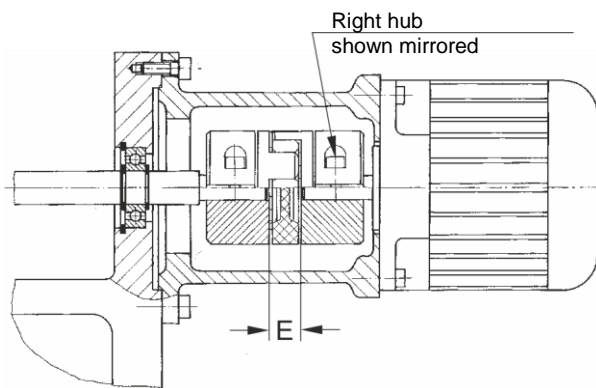

Fig. 15 ROBA®-ES with clamping hubs
After joining both coupling hubs, no axial pressure must be placed on the elastomeric element (6). Keep to distance dimension "E" acc. Fig. 15 and Table 12!
Size	Distance dimension "E" (Fig. 15)